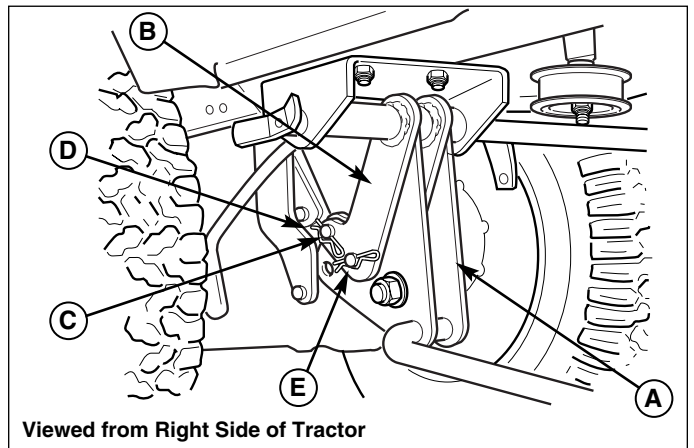

Figure 21. Hydraulic Lift Bracket
3. If your tractor is equipped with hydraulic/electric lift, install the lift lever extension assembly (A, Figure 21) to the lift arm (B) as shown. Secure with clevis pin (C) and spring clip (D) provided.
4. Install the 3/8 pin (E) removed from the mower and secure with spring clip (D).